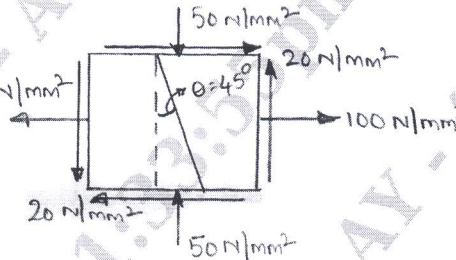

Fig. Q1 (c)
c. At a point in a stressed body, the stresses act are shown in Fig. Q1 (c). Determine the value of